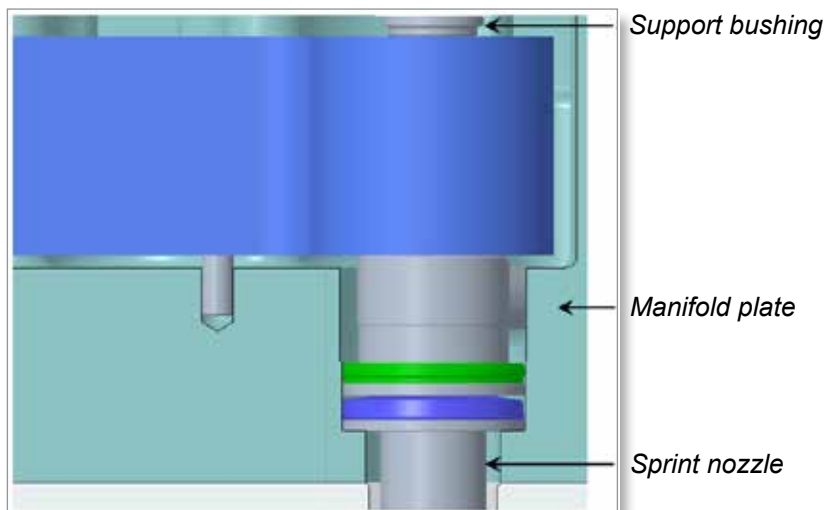

Figure 5-16 Location of support bushing
3. Use a dowel pin to install all of the support bushings into the manifold. See Figure 5-16.